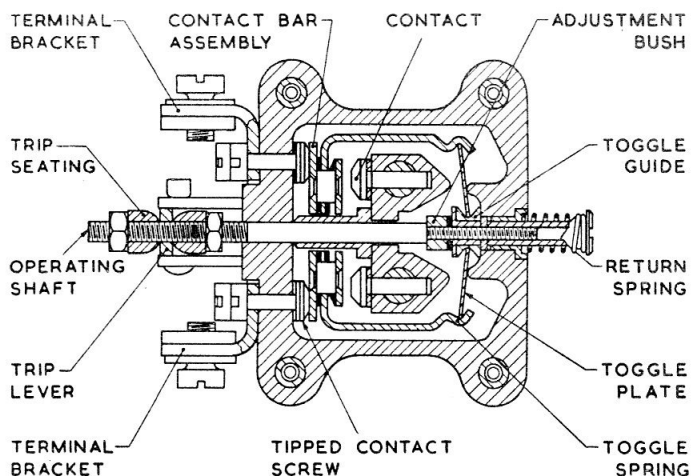

Fig. 2. Sectional drawing of switch
3. The switch is operated by a central longitudinal shaft which carries a toggle guide connected through a toggle plate and spring to a moving contact bar assembly. As the trip lever at the end of the operating shaft is moved outwards, i.e., to the left as shown in *fig. 2*, the toggle plate is stressed until it passes top dead centre. At this point it snaps over to its new position, carrying the contact bar assembly with it, so breaking contacts C and D and making contacts A and B. The switch is returned to its original position by pressure on the trip lever in a reverse direction.